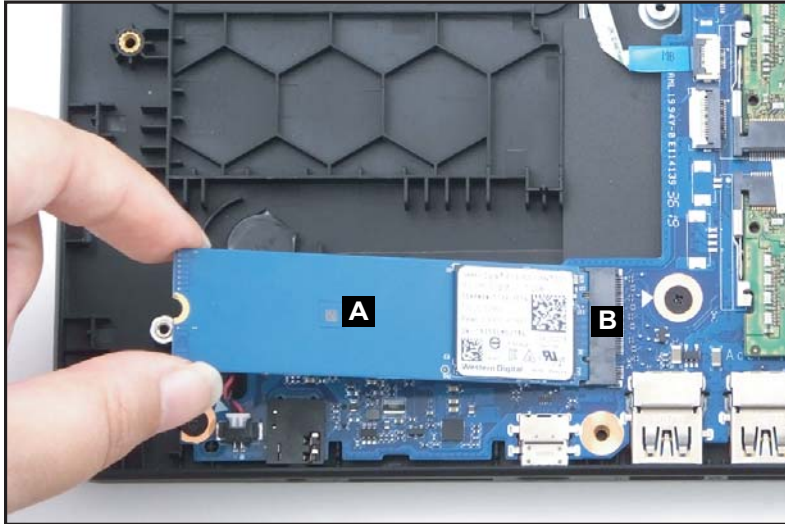

Figure 1-108. Replacing the SSD Module
1. Insert the SSD module (A) to the mainboard connector (B) (Figure 1-108).